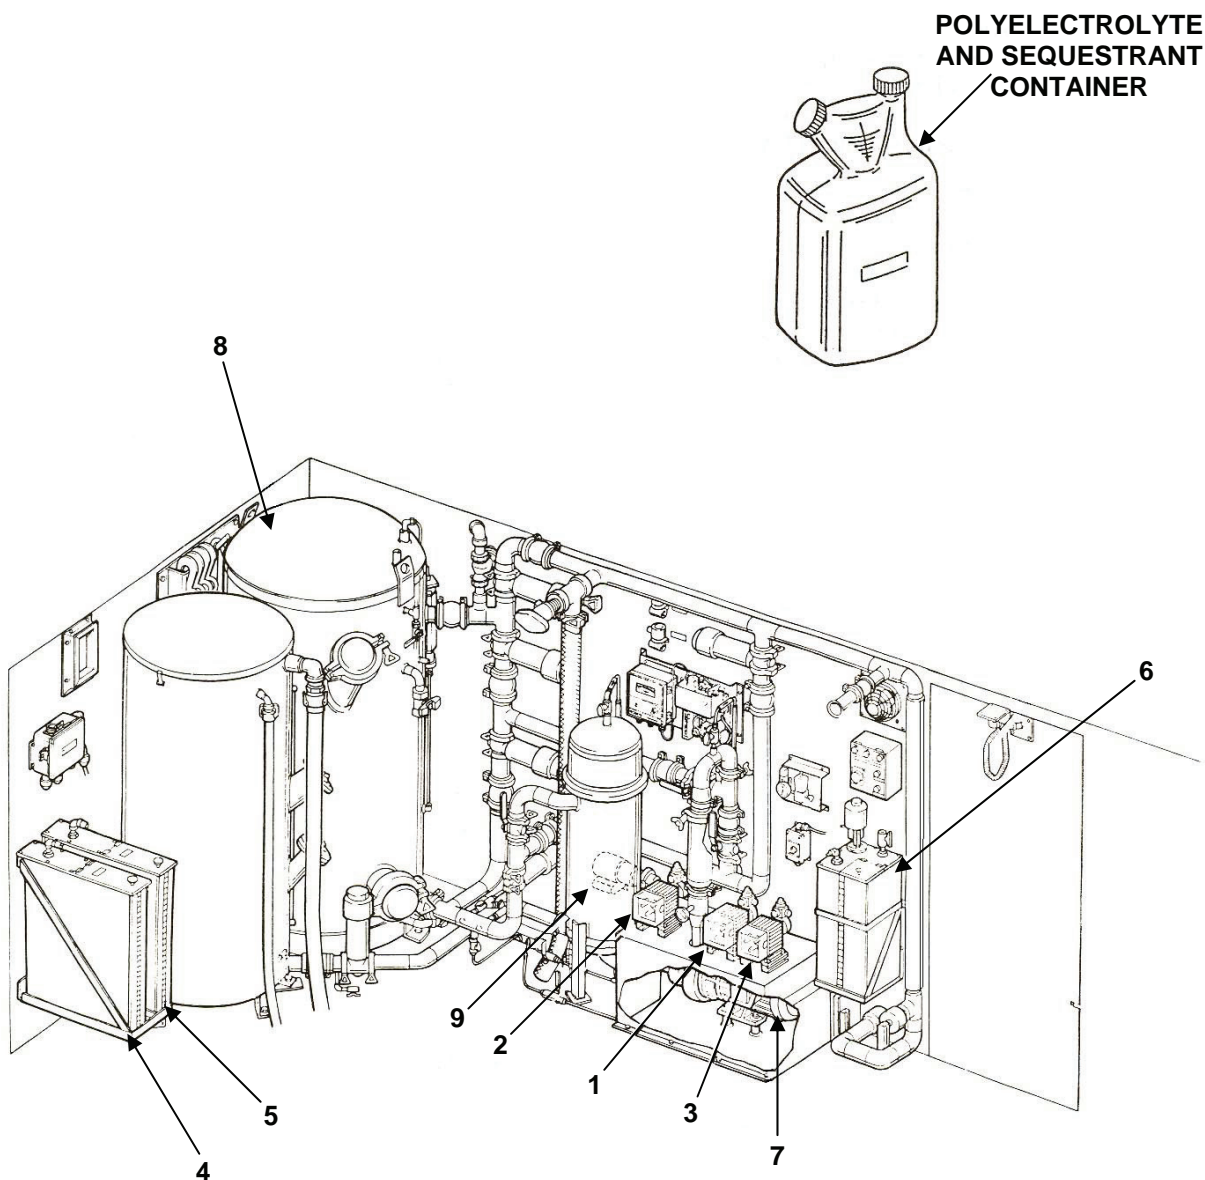

Figure 8. Chemical Treatment Components
- a. Chemical Pumps and Tanks (Figure 8). There are three chemical injection pumps; one for polyelectrolyte (1), one for sequestrant (2) and one for hypochlorite (3). Each pump can be adjusted to control its delivery or to turn it off. Each of the three chemicals is contained in a tank. Each tank is labeled by name and corresponding identifying symbol: